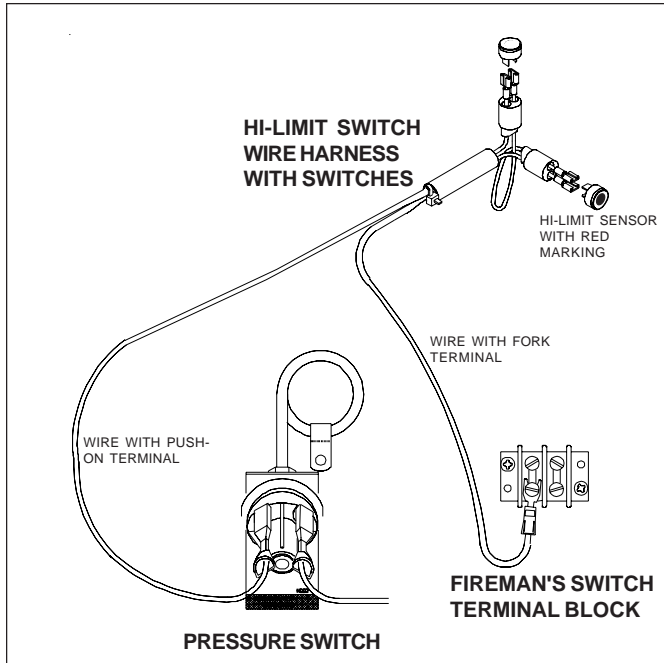

Figure 7. Hi-limit switch harness wiring
D. Replacing the Hi-Limit Switches and Harness- (See Figure 7.)